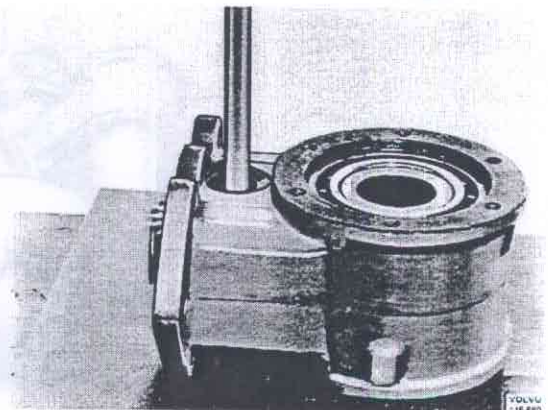

Fig 46-140 Removing the shaft
9. Remove the bolt securing the drive gear shaft. Press out the shaft with a suitable drift, Fig. 46-140. Remove the drive gear.